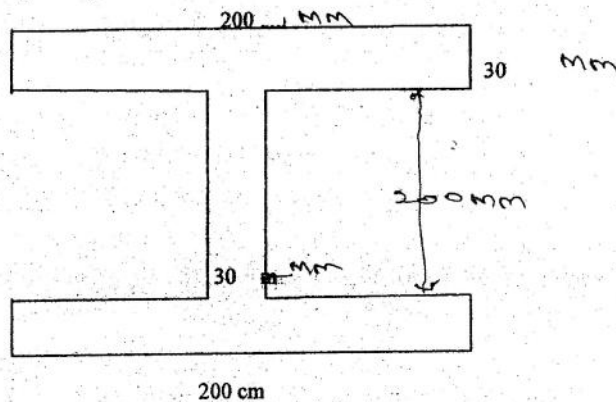

Figure-1
3. Find out the moment of inertia of the built up section about the axis passing through the centre of gravity ( Figure-1).